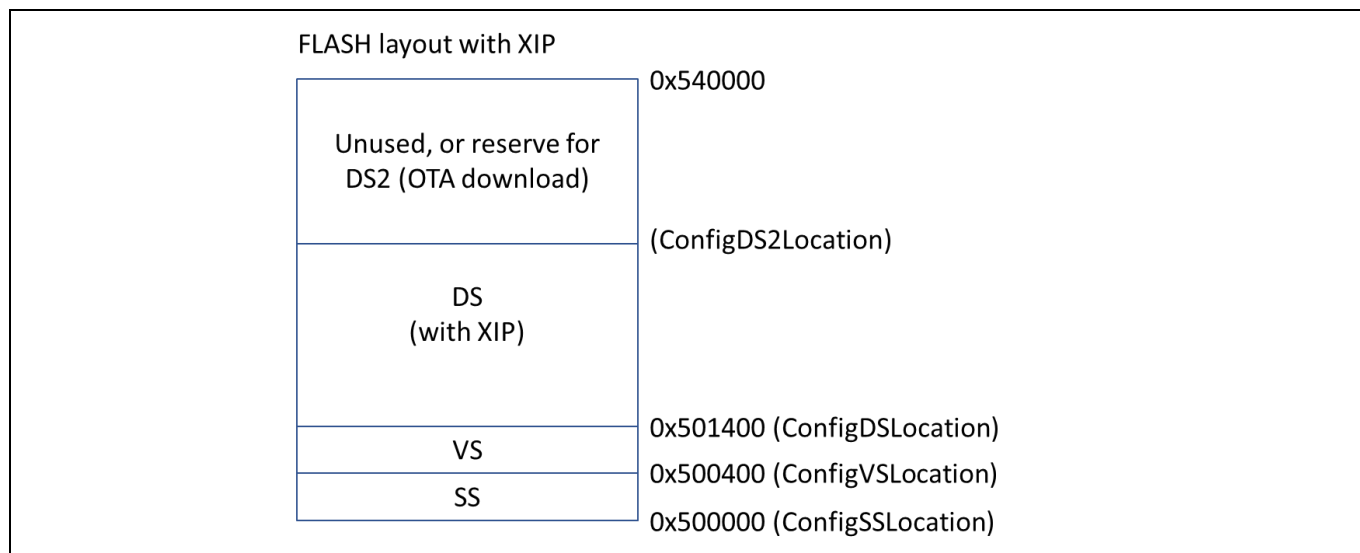

Figure 1 Typical 208XX flash layout with XIP image
The flash start address to place the XIP section is calculated by adding `CY_CORE_APP_SPECIFIC_DS_LEN` (default set in `<TARGET>.mk`) to `ConfigDSLocation`, from the platform `bsp` file found in the platform folder `wiced_btsdk/dev-kit/baselib/<device>/platforms`. Currently, the `CY_CORE_APP_SPECIFIC_DS_LEN` value is set to a minimal offset of 0x80 (128) bytes. This allows just enough room for some required early DS configuration records. It is not recommended to modify this. The XIP itself occupies a special DS configuration record and is part of the DS Section as shown in Figure 1. Other DS configuration records follow the XIP record to make up the rest of the DS section.